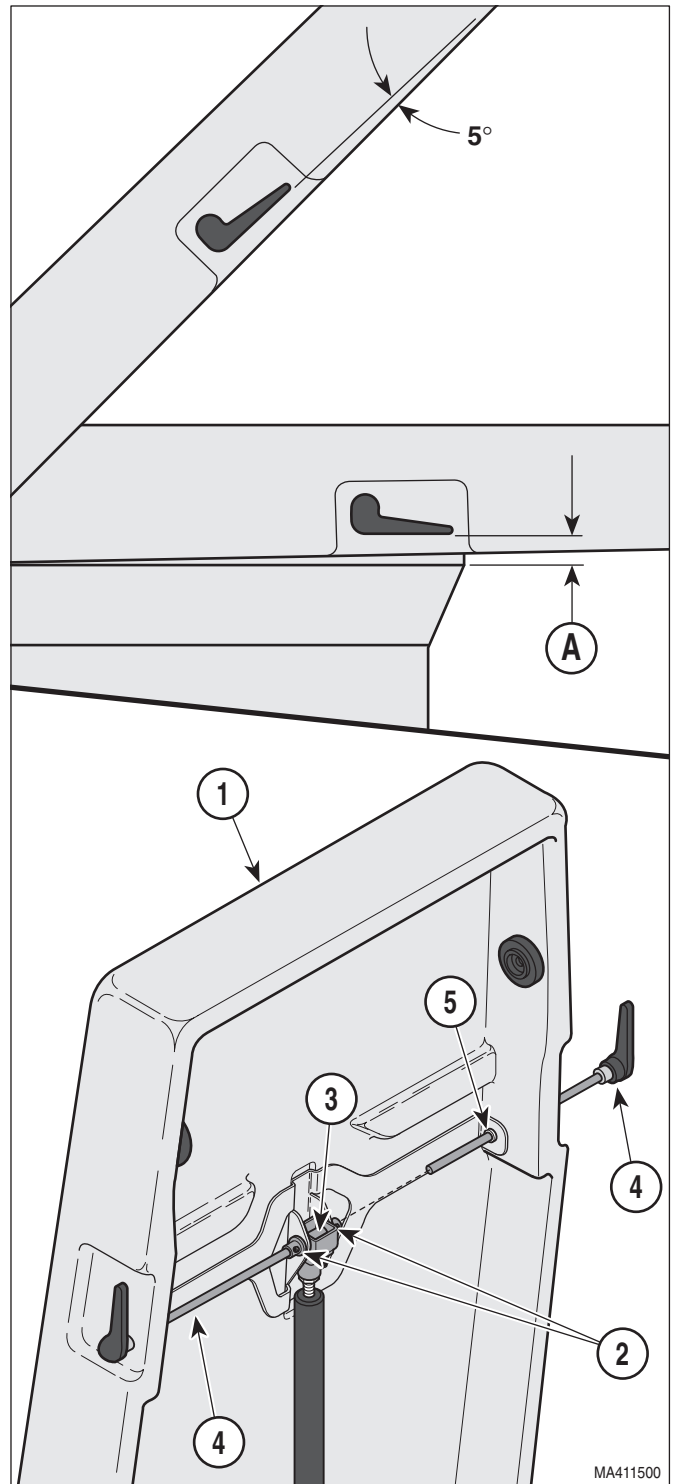

Figure 4-9. Back Section Release Lever Removal / Installation
- (1) Raise the back section (1, Figure 4-9) to its highest position.
- (2) Remove two screws (2) from cam (3).
- (3) Pull handles (4) out of the cam (3) and remove handles from back section (1).